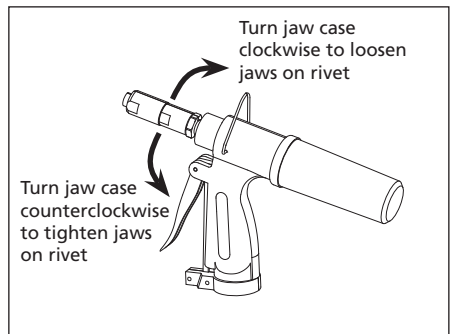

Figure 4
3. Turn jaw case counter-clockwise making jaws tighten on rivet. Turn clockwise to loosen jaws on rivet (See Figure 4).